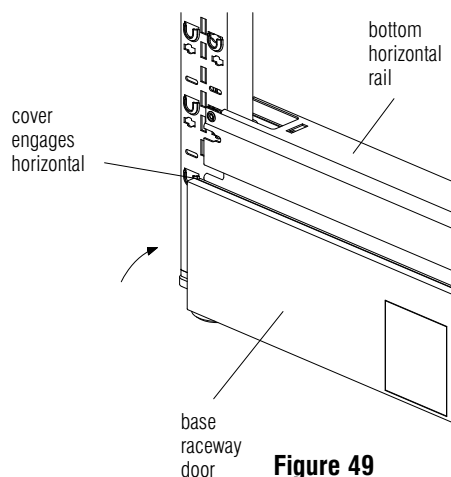

Figure 49
3. Push the doors of the base raceway upward until they engage the lower horizontal. **Figure 49.** The base cover filler plates remain in position unless a receptacle is being used in that location. If there is a receptacle, snap the filler plate out from inside of the base cover and snap a bezel in its place from the front of the cover.